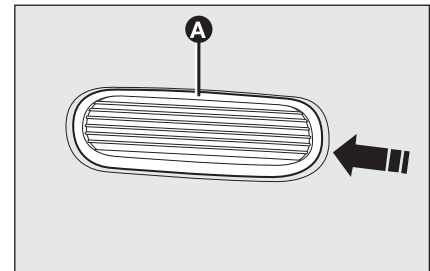

fig. 27
- push the transparent cover **A-fig. 27** towards car running direction (it is pressure-fitted);